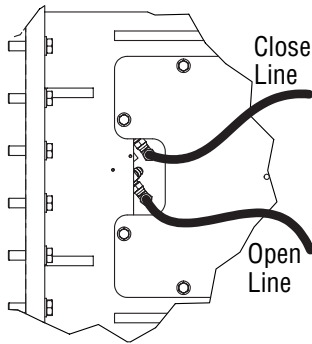

Figure 4-8, Hydraulic Connection
3. Locate the slot in the top cover plate of the attachment. Remove the caps covering the relief valve ports and attach customer supplied hydraulic hoses. (Figure 4-8).